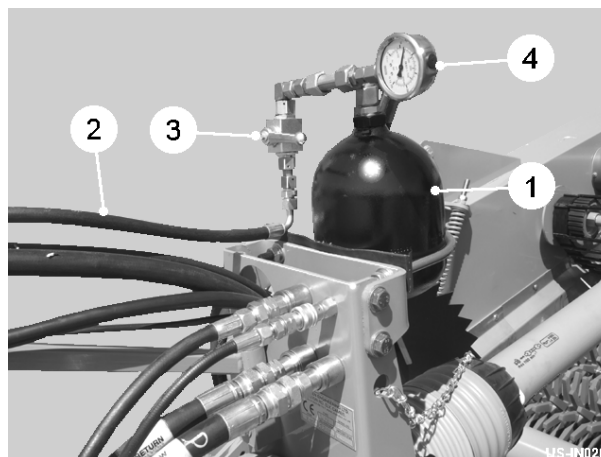

Fig 2
The hydraulically damped drawbar is fitted to protect the machine when operating in soil conditions where buried obstructions may be encountered. The system consists of a hydraulic cylinder mounted within the drawbar pressurised by an accumulator (item 1, fig 2). The design allows the drawbar to extend by 200mm. After 25mm of movement a proximity sensor triggers the control system to simultaneously lift the digger shares and stop the hydraulic drives. After activation the machine elements have to be restarted using the control box. The drawbar must always be pressurised before commencing work.
To set the accumulator pressure, connect the hose (item 2, fig 2) to the tractor spool valve and open the accumulator valve (item 3, fig 2). Open the tractor spool valve while closely watching the pressure gauge (item 4, fig 2). When the pressure reaches 65 bar immediately close the spool valve and then close the accumulator valve. If necessary, reduce the pressure slightly using the accumulator valve. The drawbar is now pressurised and ready for operation. If in work, due to differing soil conditions, the initial setting of 65 bar is found to be too low and the drawbar is extending in normal work, increase the pressure setting by increments of 10 bar until the drawbar is static. **DO NOT EXCEED 120 BAR.** If the drawbar is still not functioning correctly when the maximum pressure is reached, consult your Standen dealer for further advice.